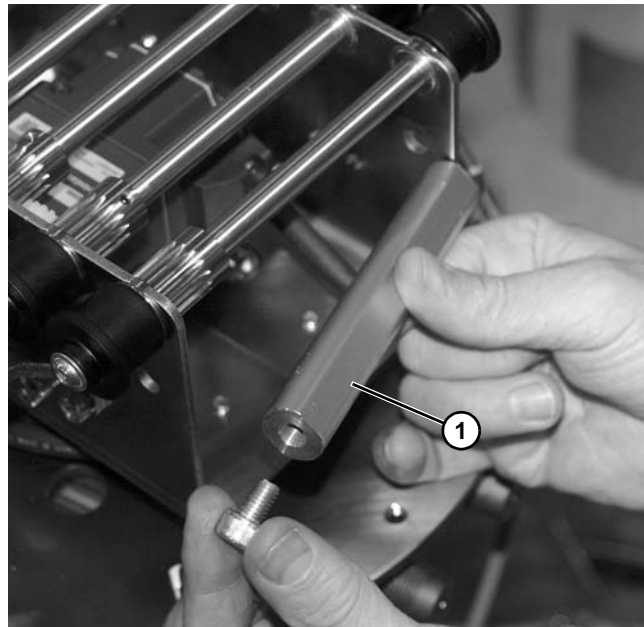

Figure 147
4. Remove support bar (**Figure 147, item 1**) from assembly.